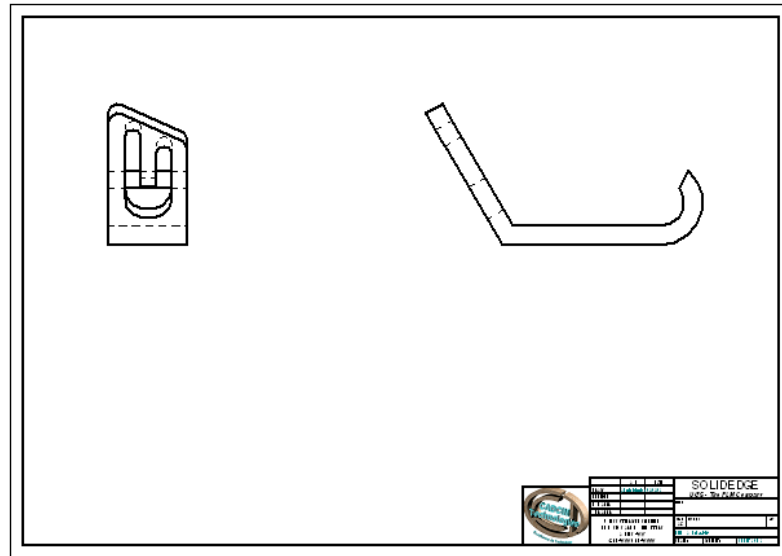

Figure 12-36 Drawing views after reducing the scale
9. You can move the views on the sheet by dragging them. Arrange the views, as shown in Figure 12-36.